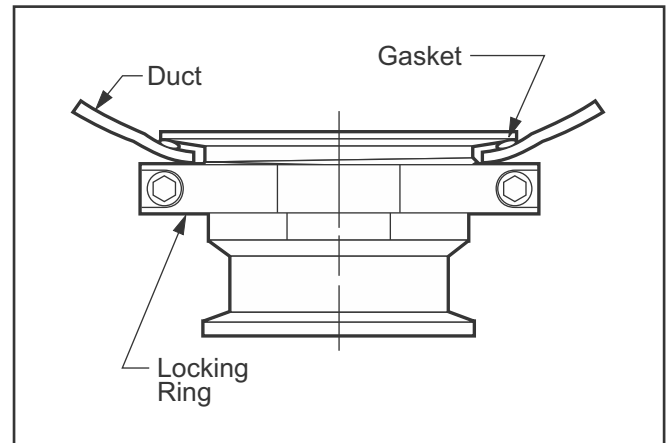

Fig. 34: Field Installed 2" FT Flange Configuration
5. Install Fab-Tech Flange: Remove backing and apply die-cut PermaShield Gasket to the inside flange of the fitting. Place the fitting in the swaged hole from inside the duct so that the gasket forms a seal between the inside flange and the duct. Thread the matching split locking ring onto the fitting and tighten until snug. Using the appropriate size wrench on the locking ring and the flats on the fitting, tighten the locking ring until there is resistance to further tightening. Installation is complete. (Fig. 34)